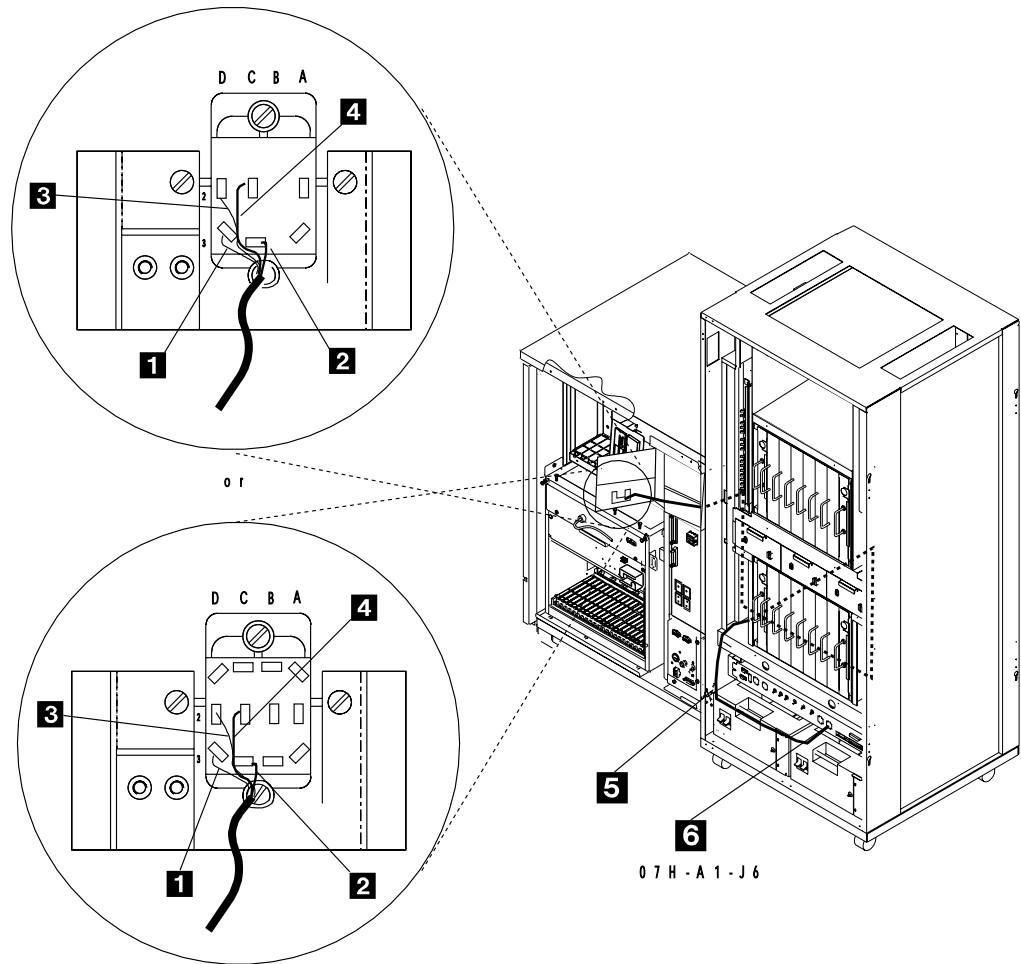

Figure 6-1. UEPO Cable Routing (3746-900 Attached to a 3745-17A)
- Step 2. \_\_\_\_ Connect the ground cable **5** to the 3746-900 frame using screws (PN 1621191) and lockwashers (PN 17G5852) refer to Figure 6-1 for the location.
- Step 4. \_\_\_\_ Open the 3745 control panel. Locate the unit emergency power OFF (UEPO) switch at the rear of the control panel (see Figure 6-1) .